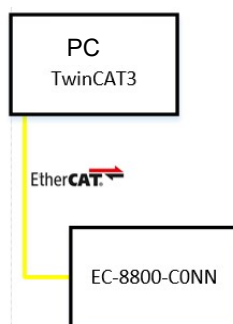

Figure 5-1-1 Communication connection diagram
1. Communication connection diagram, as shown in Figure 5-1-1 shown.